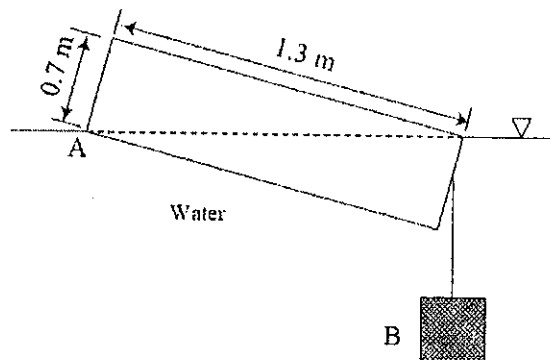

Figure Q2b
- b) A homogeneous wooden block A, 0.7 m x 0.7 m x 1.3 m weighs 2.4 kN. A concrete block B is suspended from A using a slender cable causing A to float as in Figure Q2b. If the specific weight of the concrete is 23.6 kN/m3, calculate the volume of B.